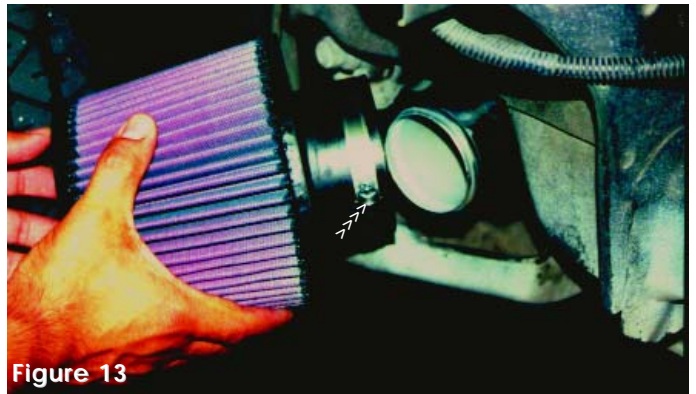

Figure 13
- 7- Place the Injen filter over the lower end of the cold air intake and firmly tighten the clamp on the filter neck. (See figs. 13 and 14)